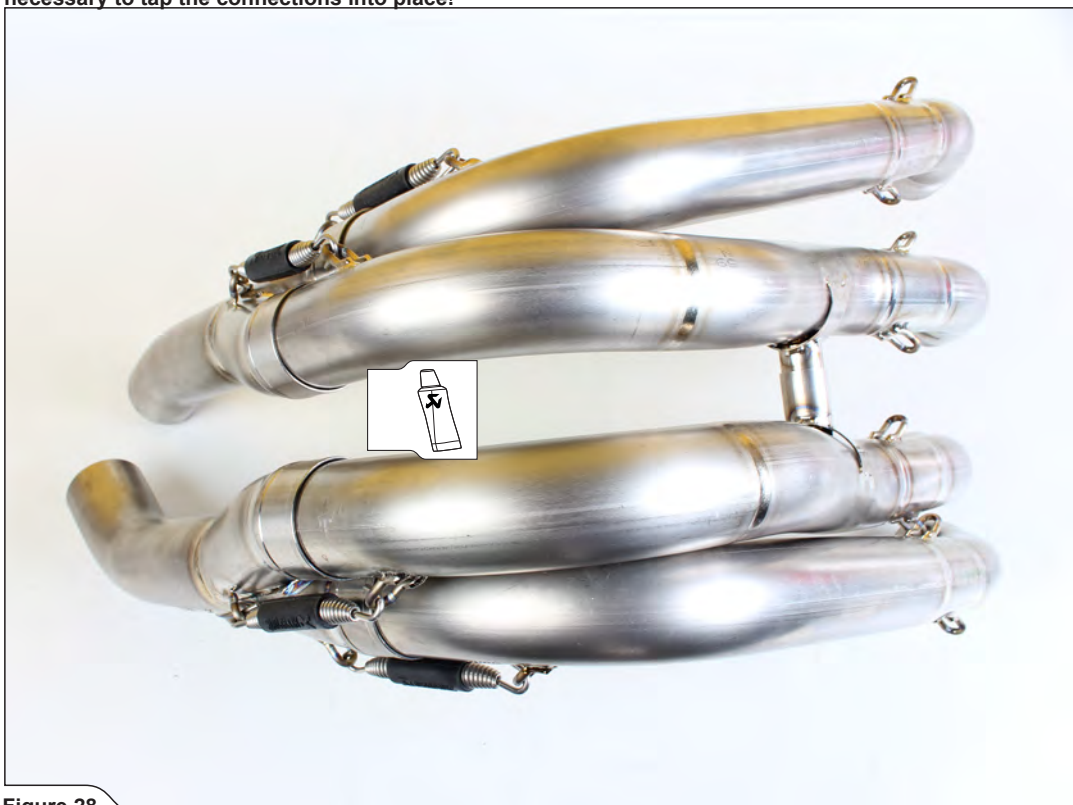

Figure 28
2. Assemble the headers and collectors, as shown and attach the springs (Figure 28).